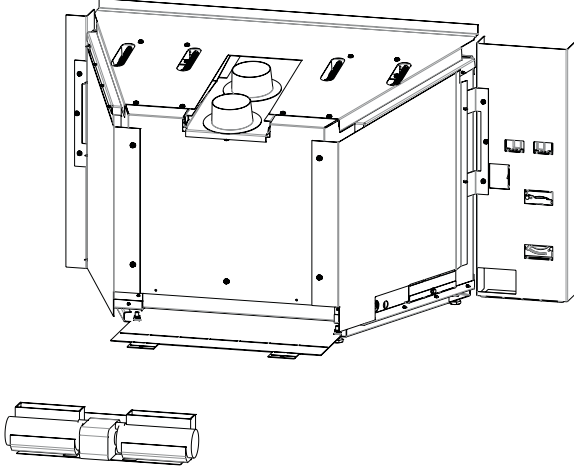

Figure 43
5. Remove the two screws securing the bottom flange to the firebox. **See Figure 43.**
6. Hand bend the flange so that lays flat. **See Figure 43.**